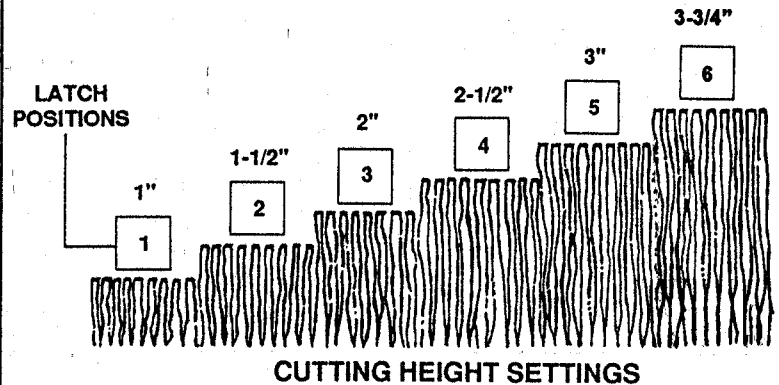

FIGURE 2.4
- B. Set all wheels at same cutting height. The highest cutting position is Notch 6; the lowest cutting position is Notch 1. See Figure 2.4 for example of cutting height settings.